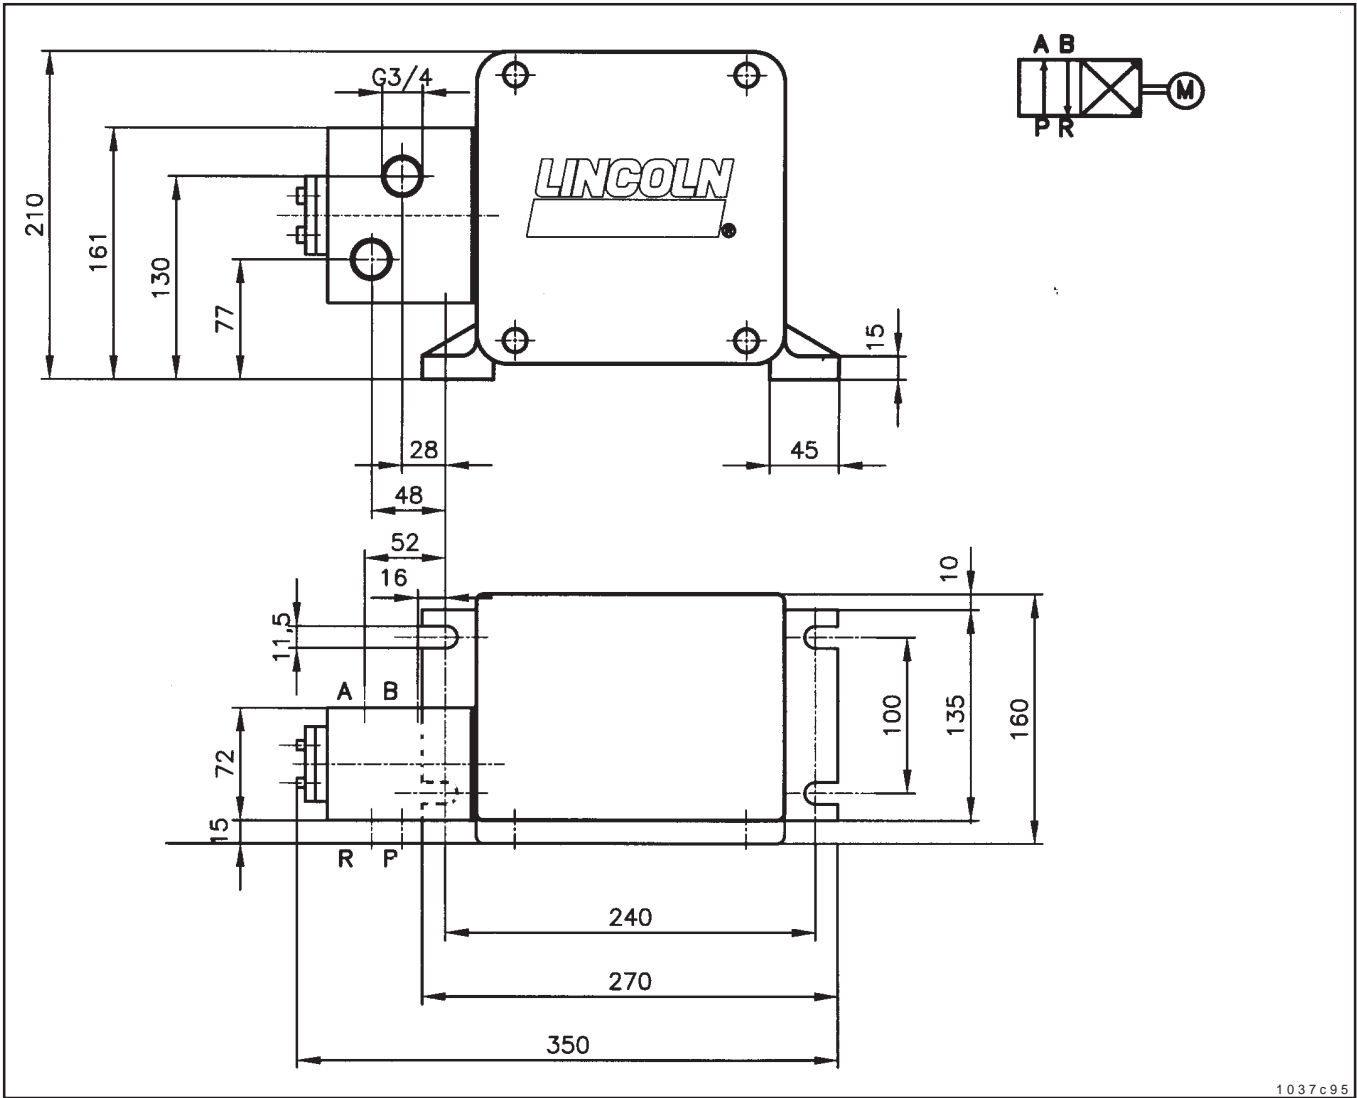

Fig. 5: mounting dimensions of the EM-U2
- When installing the change-over valve, pay attention to the mounting dimensions shown on Fig. 5